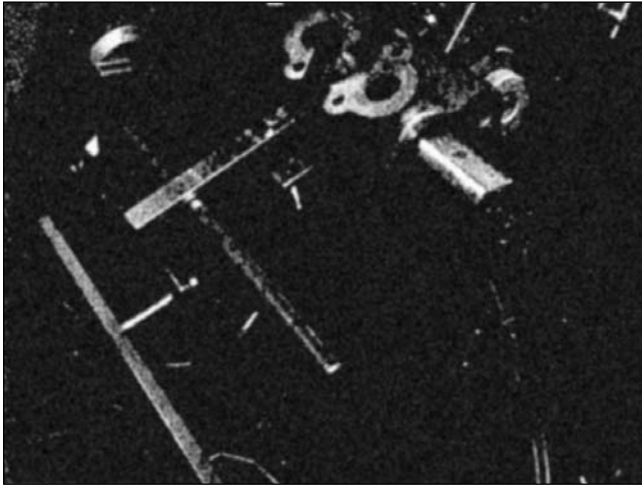

Figure 1, Hydraulic Valve Body
Parts with irregular surfaces often have a projection that can "ride" on the work support. No work dog or clamp is needed. Where the parts have no external projections to overhang a work support, then a simple clamp dog of some kind is usually sufficient (see Figures 1, 2, & 3).
**FIGURE 1:** FOR THIS HEAVY HYDRAULIC VALVE BODY A SIMPLE HOLDER IS MOST EFFECTIVE. Shown above is a double handled holder fitting a variety of sizes. The work support at left absorbs all torque as operator strokes the work.